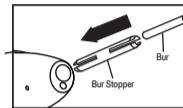

Fig. 3
- 2) Insert the supplied bur stopper into the chuck. (Fig. 3).